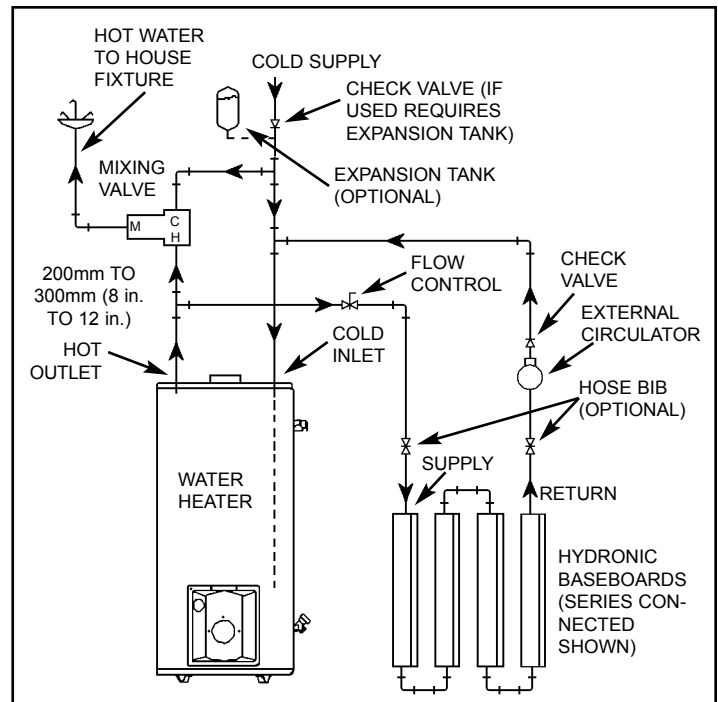

Figure 15 Combo Heating - Baseboard
2. A hydronic baseboard (finned tube) loop (Figure 15).